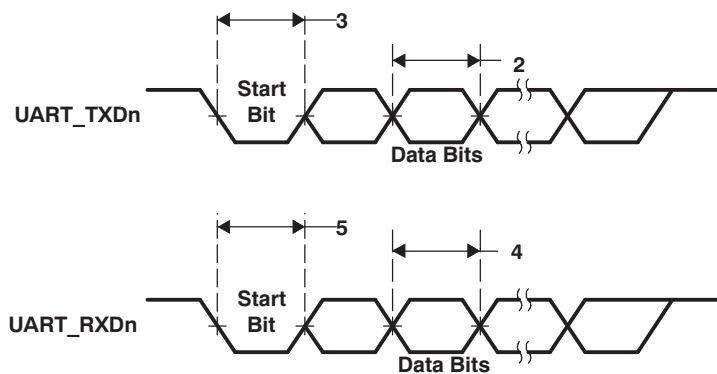

**Figure 5-35. UART Transmit/Receive Timing**
**Table 5-26. Timing Requirements for UARTx Receive (see Figure 5-35)**
**Table 5-27. Switching Characteristics Over Recommended Operating Conditions for UARTx Transmit (see Figure 5-35)**